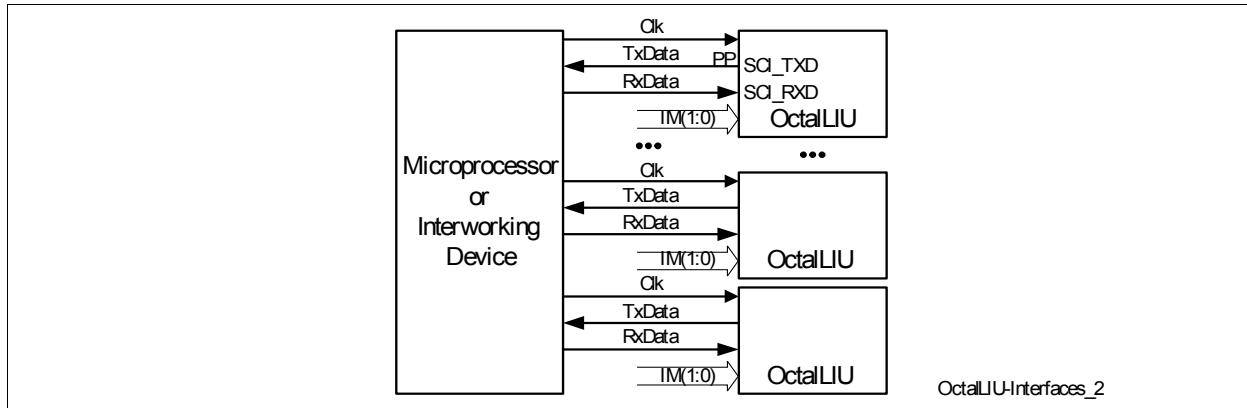
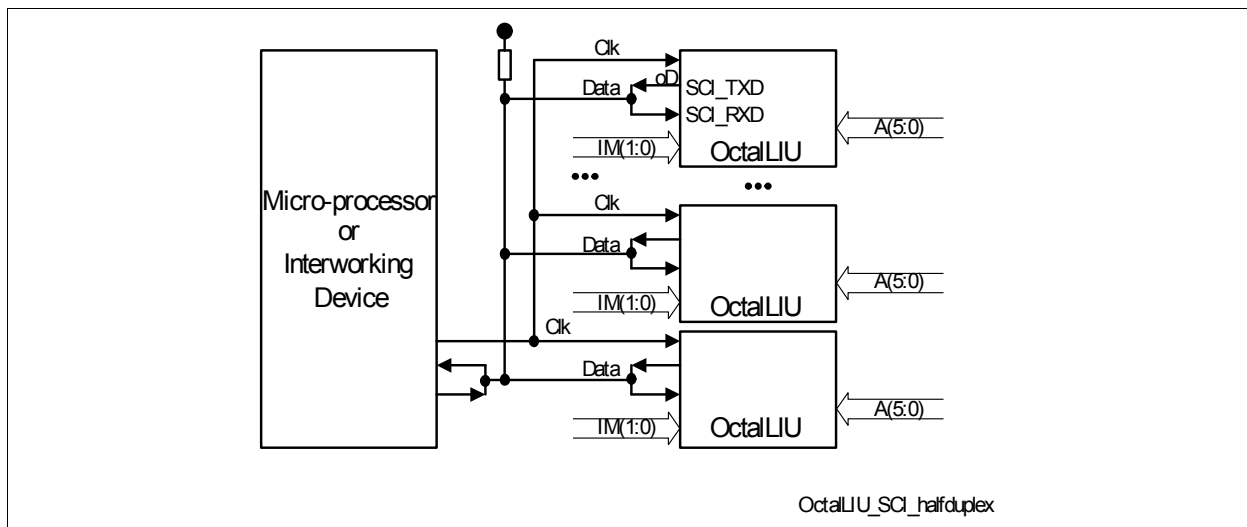

Figure 6 SCI Interface Application with Point To Point Connections
Figure 7 SCI Interface Application with Multipoint To Multipoint Connection
Figure 6 shows a first application using the SCI interfaces of some OctalLIU™s where point to point full duplex connections are realized between every OctalLIU™ and the micro controller. Here the data out pins of the SCI interfaces (SCI_TXD) of the OctalLIU™s must be configured as push-pull (PP), see configuration register bit PP in Table 8.
Figure 7 shows an application with Multipoint to multipoint connections between the OctalLIU™s and the micro controller (half duplex). Here the data out pin of the SCI interfaces (SCI_TXD) of all OctalLIU™s must be configured as an open Drain (oD), see configuration register bit PP in Table 8. The data out and data in pins (SCI_RXD, SCI_TXD) of each OctalLIU™ are connected together to form a common data line. Together with a common pull up resistor for the data line, all open Drain data out pins are building a wired And.
- Arbitration always made with LAPD (only SCI applications like in Figure 6 and Figure 7 are possible), bit ARB = '0_B'.